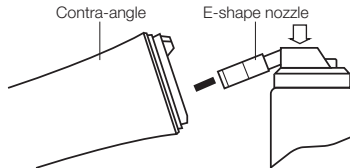

Fig. 6
3.3.3 Insert the nozzle into the tail of the contra-angle. Put a tissue on the head and hold the handpiece to spray oil to it for 2-3 seconds. Check whether the tissue is clean. If it is clean, the contra-angle handpiece can be autoclaved. If not, spray again until the tissue is clean. (Fig. 6)